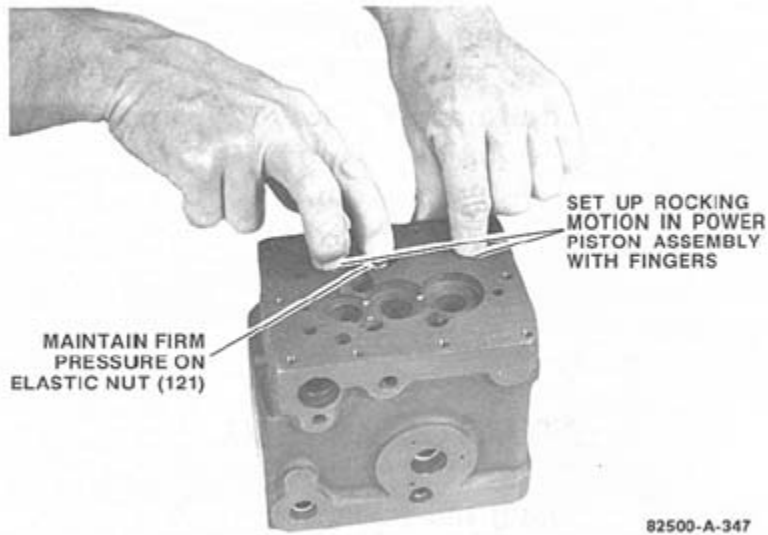
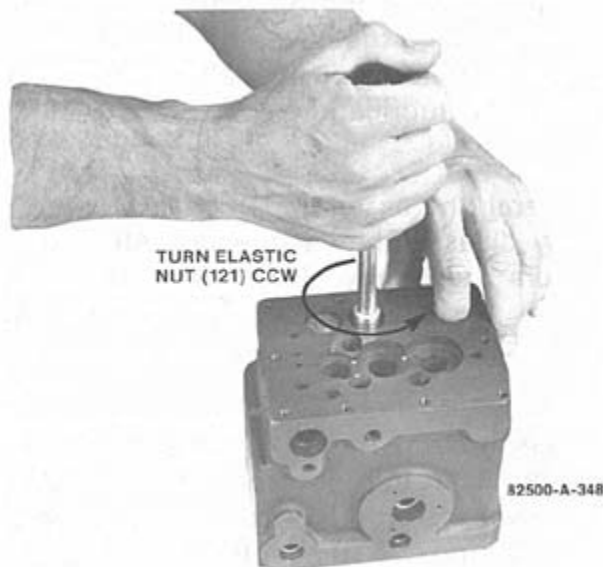

Figure 4-4. Setting up Rocking Motion
Figure 4-5. Removing Play in Power Piston Assembly
- c. Fit speed handle to elastic nut (121) and holding speed handle with firm pressure, start turning elastic nut (121) ccw 1/4 of a turn or so at a time to remove play in the piston linkage assembly. Remove speed wrench each time while maintaining firm pressure with the finger on the elastic nut, to see how much play has been removed by pushing alternately on pistons (136) and (117) as in step (a) above. See Figure 4-4. Each time this step is repeated, turn elastic nut (121) ccw in progressively smaller amounts as the amount of play in the piston linkage assembly decreases. See Figure 4-5. When nearing complete removal of play in the piston linkage assembly, turn the elastic nut (121) ccw only one degree at a time until all play has been removed.